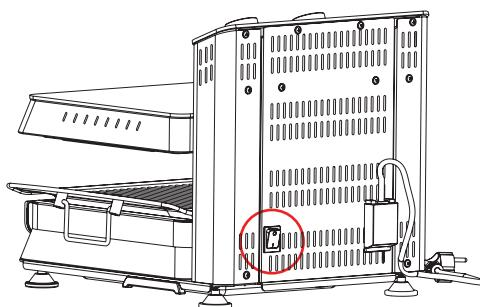

Figure 15
- If the product does not work when you plug it in, make sure that the on/off switch is in position (I).
- If the on/off switch is in position (I) (Figure 15),